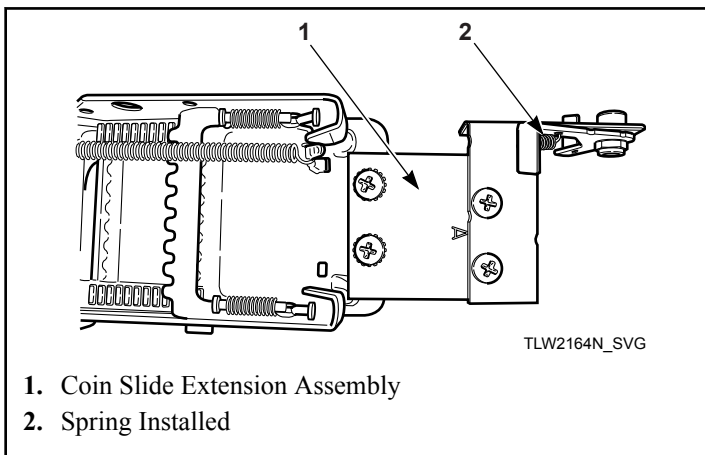

Figure 20
6. Install coin slide extension assembly onto top of coin slide using two remaining screws and lockwashers. Place lockwasher under head of screws, above bracket "A". Refer to *Figure 20*.
3. Install slide extension onto top of coin slide using two screws. Refer to *Figure 20*.